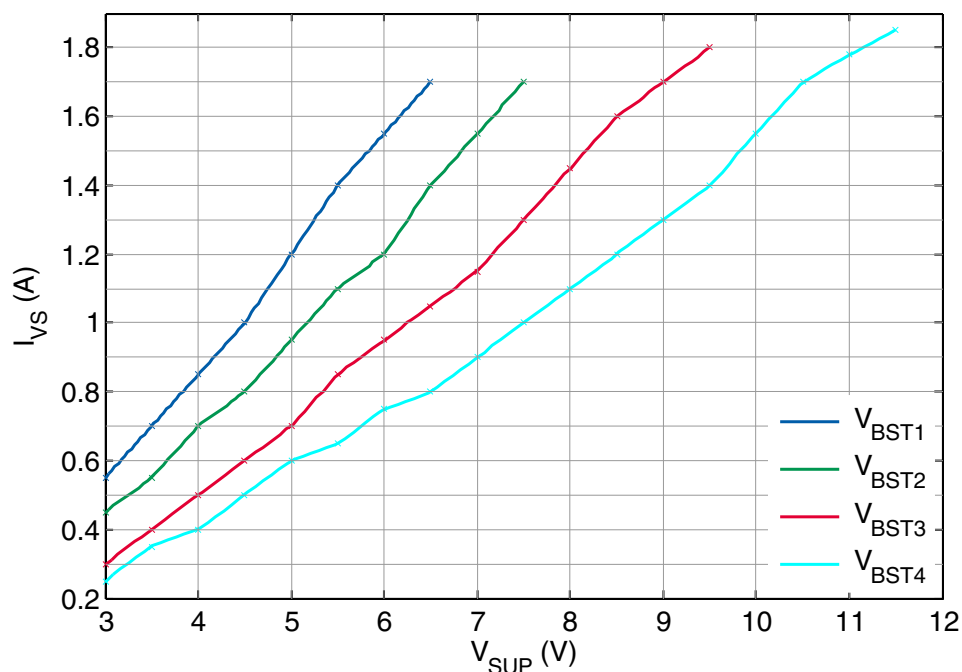

Figure 14 Maximum DCDC Boost current capability versus V_{SUP}
2) Values verified in characterization with Boost converter external components specified in Chapter 14.1. No subject to production test; specified by design. Refer to Figure 14 for additional information.
Note: **Figure 14** is based on simulation results (specified by design), with Boost converter external components specified in Chapter 14.1.